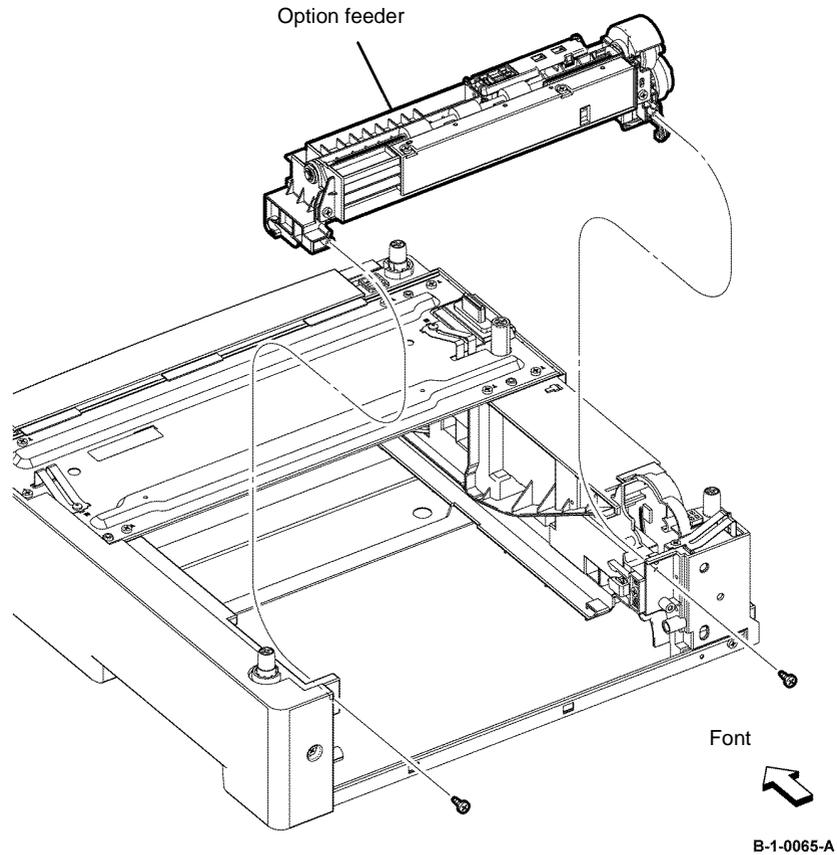

Figure 2 Option feeder removal
7. Remove two screws (silver, tapping, 8mm) that fix the option feeder, release the four holes from the bosses on the frame, then remove the option feeder, Figure 2.